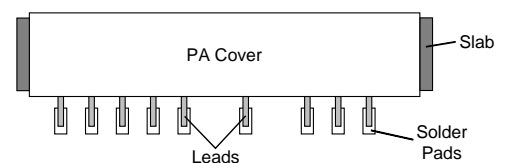

Figure 40-17.
- (1) Refer to Figure 40-17 for RF PA nomenclature.